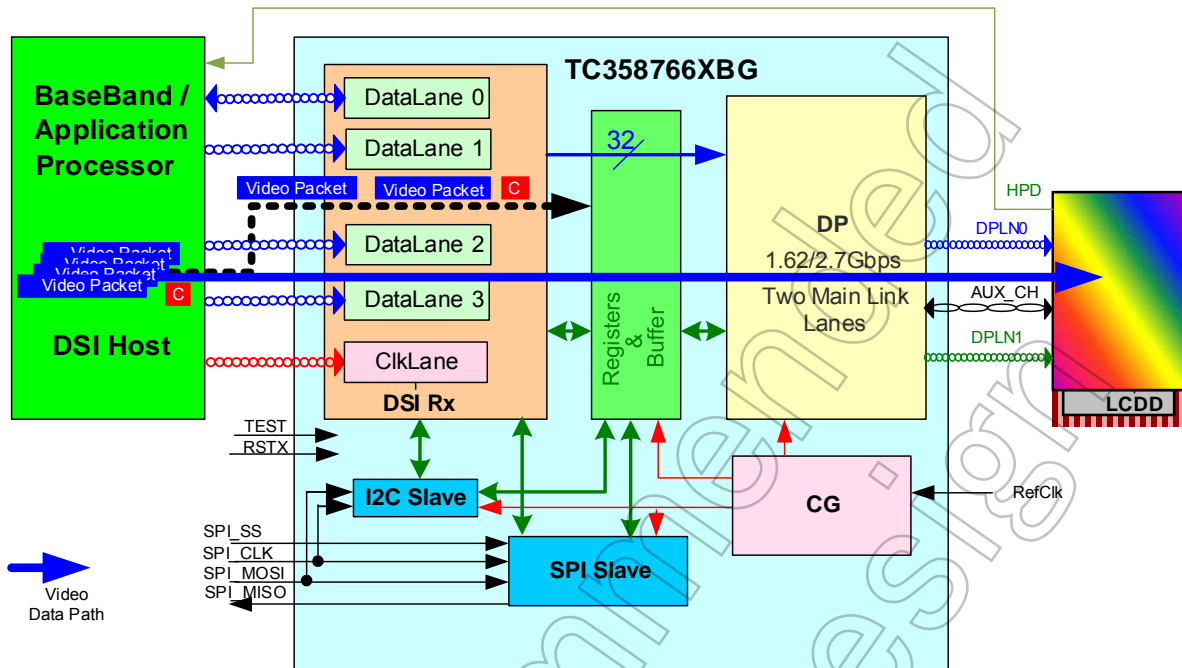

Figure 1.1 System Overview with TC358766XBG in MODE_S21 Configuration
- Mode_S21: A system configuration where TC358766XBG may typically be used is shown in Figure 1.1. In this system, TC358766XBG could be connected to a single display. In this configuration, the TC358766XBG can support displays with resolution up to WUXGA (1920x1200) at 24bit, 60 fps or WUXGA (1920x1200) at 18bit, 60 fps. Video stream source is from DSI Host.